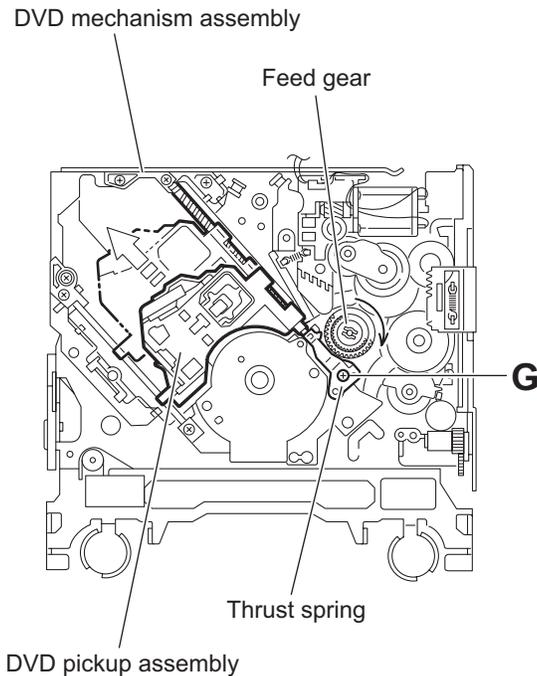

Fig.17
### 3.4.9 Removing the DVD pickup (See Figs.17 to 19)
- (1) From the bottom of the body, turn the feed gear in the direction of the arrow to move the DVD pickup outwards. (See Fig.17.)
- (2) Remove the screw **G** attaching the thrust spring. (See Fig.17.)